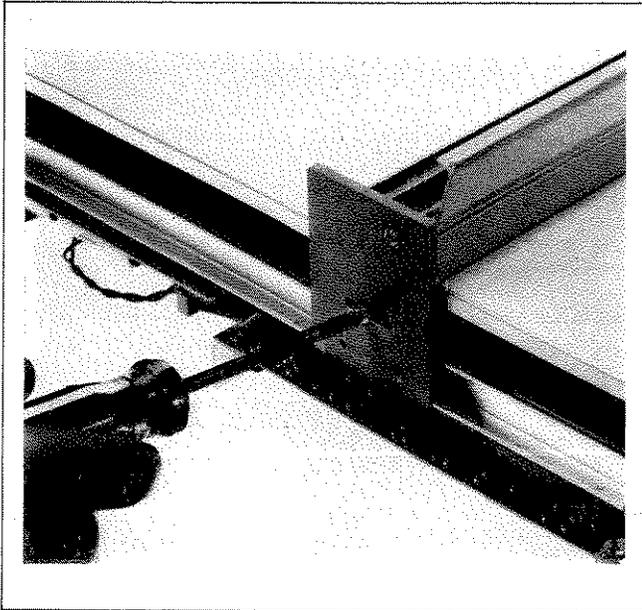

Figure 5-15. Y-Axis Alignment Adjustment
5. Reposition guide to compensate for deviation distance recorded in steps g.1. and g.3. (See Figure 5-15.)
2. Loosen Y-axis alignment screw located at bottom of recording arm (Figure 5-15).